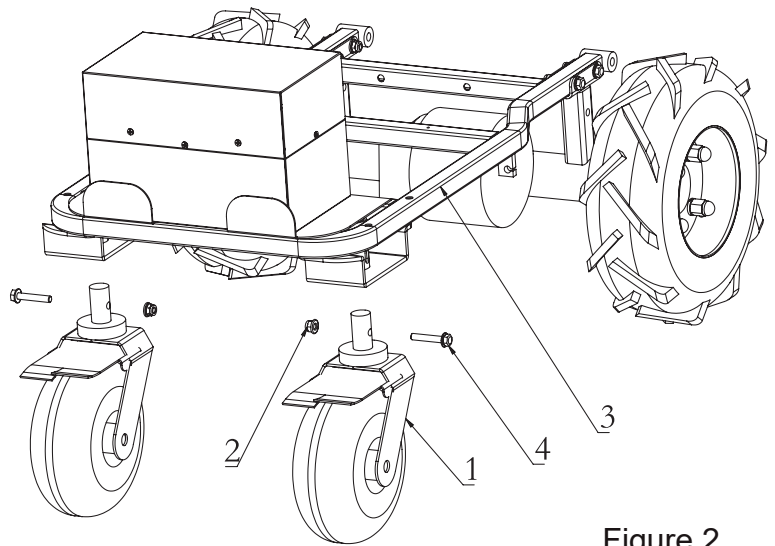

Figure 2
4. The steering wheel (1) is installed on the welding column of the base frame (3).
5. Attach the steering wheel (1) with 1 M8 nut (2) & 1 M8\*45 bolt (4).
**(See Figure 2)**